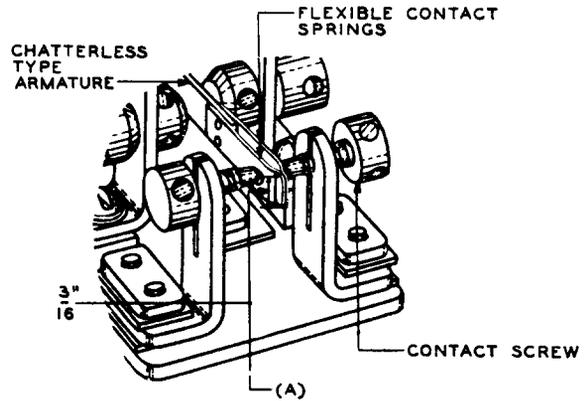

Fig. 3 - Flexible Contact Spring Alignment (215-type relay shown)
(1) **Flexible Contact Springs Riveted to Armature:** Fig. 3(A) — The tips of the flexible contact springs shall be approximately flat, shall bear upon each other at